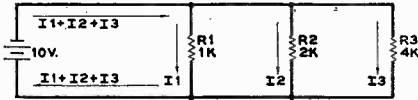

Fig. 7. In a parallel circuit, separate currents flow in each of the resistances.
tion of 3 resistances across a 10-volt battery, as in Fig. 7. R1, R2, and R3 are each across the battery terminals individually, so each has the battery's terminal voltage. It is obvious as well that each must have the same voltage across it as the others in the parallel combination, no matter how the combination is used with other resistances in the most complex circuit. So long as the resistances are joined at both ends there must be the same potential difference across them. Herein lies the reason for the basic differences in series and parallel circuits: resistances in series have a common current but different voltage drops; resistances in parallel have a common voltage drop but different currents.
If R1 alone were attached to the battery in Fig. 7, the current through the battery would be only that taken by R1 as the load.
Using the formula above we can calculate the resultant of the first 2 resistances in a parallel combination; then, considering the resultant as one resistor, compute a subsequent resultant with the next resistor in the combination, and so on. If there are 4 or fewer resistances to deal with it is easier to go at it this way than to use the general formula. Let's see how it works out for the resistances in Fig. 7:
That's the first operation. Now, considering the resultant (667) as R1 and calling R3 (Fig. 7) R2 for the formula, we have
Going back to Fig. 7, you'll recall that with 10 volts across the parallel group the 1-K resistor took .01 amp, the 2-K resistor .005 amp, and the 4-K resistor
.0025 amp. *The currents are inversely proportional to the resistance values in a parallel group.* We should expect a 500-ohm resistor to take .02 amp if it were placed in the same group, and a 10-K resistor .001 amp, without bothering to compute it by Ohm's Law. This assumes that the voltage remains constant, of course, and it would in Fig. 7. Since voltage is the same for each resistance, and power consumed is a product of voltage times current ($P = EI$), it follows that power is inversely proportional along with the current: *The power consumed in individual resistances of a parallel group is inversely proportional to the resistance values.*